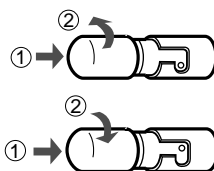

Fig.35
- 4** Remove the lamp from the socket by pushing in gently and turning counterclockwise. (Fig. 35)
- 5** Install the new lamp by pushing it gently into the socket and turning clockwise. (Fig. 35)